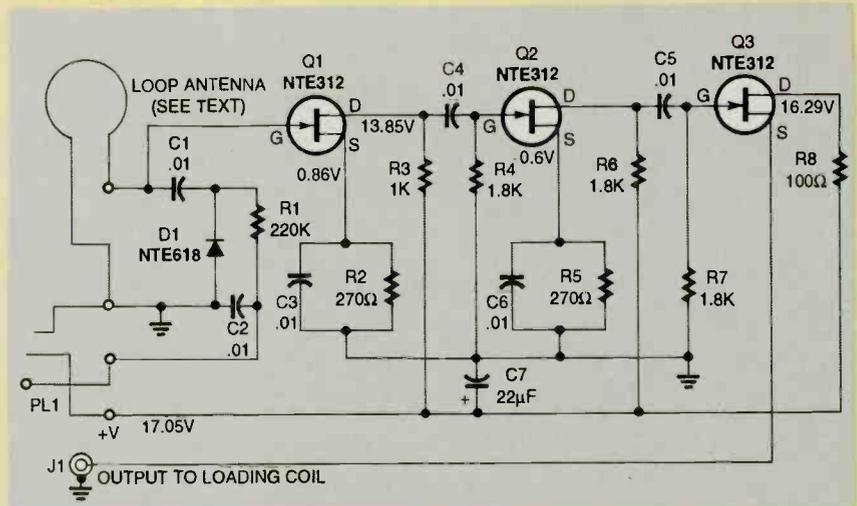
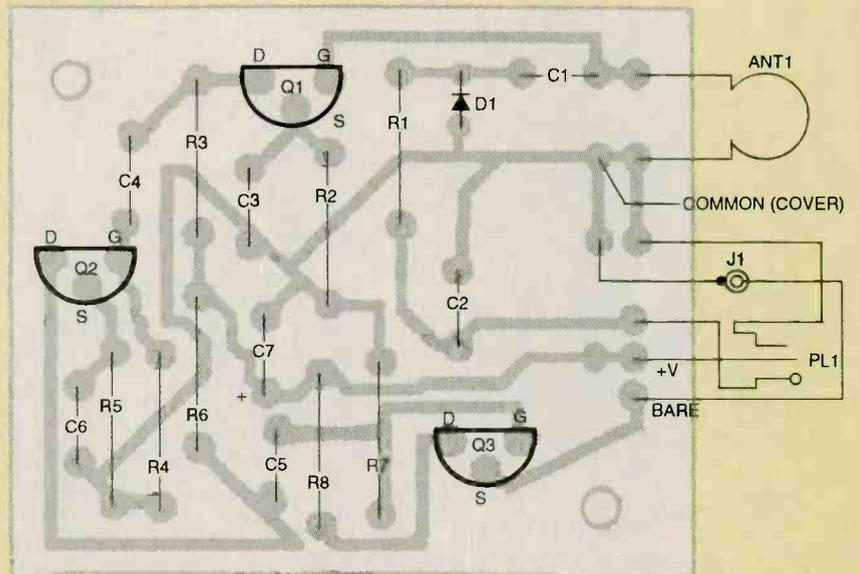

FIG. 2—TUNER-AMPLIFIER SCHEMATIC DIAGRAM: Three JFETs, Q1 to Q3, amplify the signal. Loop antenna tuning is performed by varactor diode D1.
FIG. 4—PARTS PLACEMENT DIAGRAM FOR TUNER-AMPLIFIER. Jack J1 and plug PL1 are mounted on the case.
Figure 2 is the schematic for the tuner-amplifier. The loop antenna is connected to the gate input of transistor Q1, and it is tuned by varactor D1. Tuning voltage is available through R1, which is connected to the remote tuning control with a two-wire shielded cable and plug PL1. The drain output of Q1 is coupled to the gate of Q2 for ad-
At least a 17-volt output is needed to tune the loop over the entire AM broadcast band, but the distributed capacitances of each system and the varactors like D1 (see Fig. 2) are likely to vary. A voltage slightly higher than the minimum requirement assures adequate capacitance change to cover the entire AM band. The voltage values to be expected at various test points in this circuit are also given to two decimal places on this schematic.
**Tuner-amplifier**—Refer to Fig. 2 and the tuner-amplifier parts-placement diagram Fig. 4. A foil pattern for the tuner-amplifier circuit board is included in this article if you want to make your own, but a finished board is available.